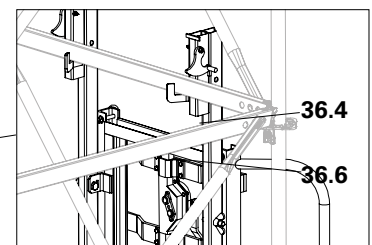

Fig. C1.02a
- whilst the top connector (**36.6**) is positioned under the Horizontal Ledger UH. (Fig. C1.02a)